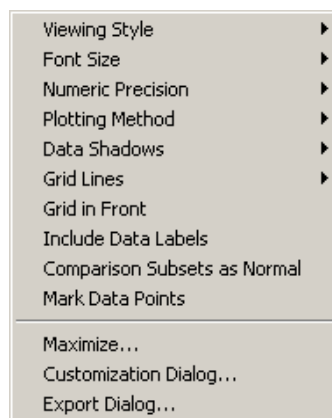

Figure 5-93 Graph Menu Items
1. Right-click anywhere in the graph on the **Standards** tab. The **graph** menu opens. See Figure 5-93.